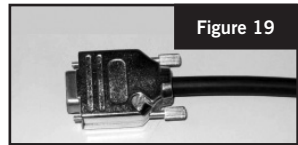

Figure 19
i. Attach D-SUB male connector and back shell. (See figure 19)